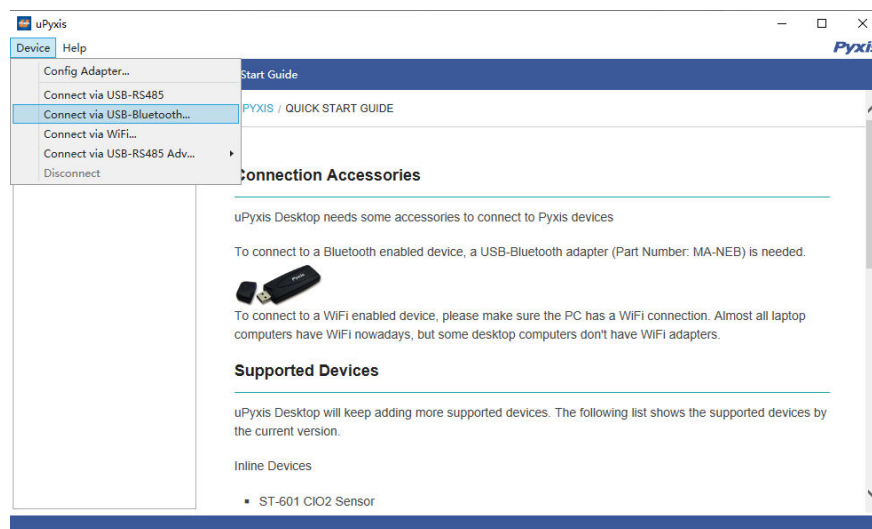

Figure 17.
3. On **uPyxis®** Desktop App, click Device → **Connect via USB-Bluetooth** (Figure 17).
4. If the connection is successful, the CR-301 and its Serial Number (SN) will be displayed in the left pane of the **uPyxis®** window.